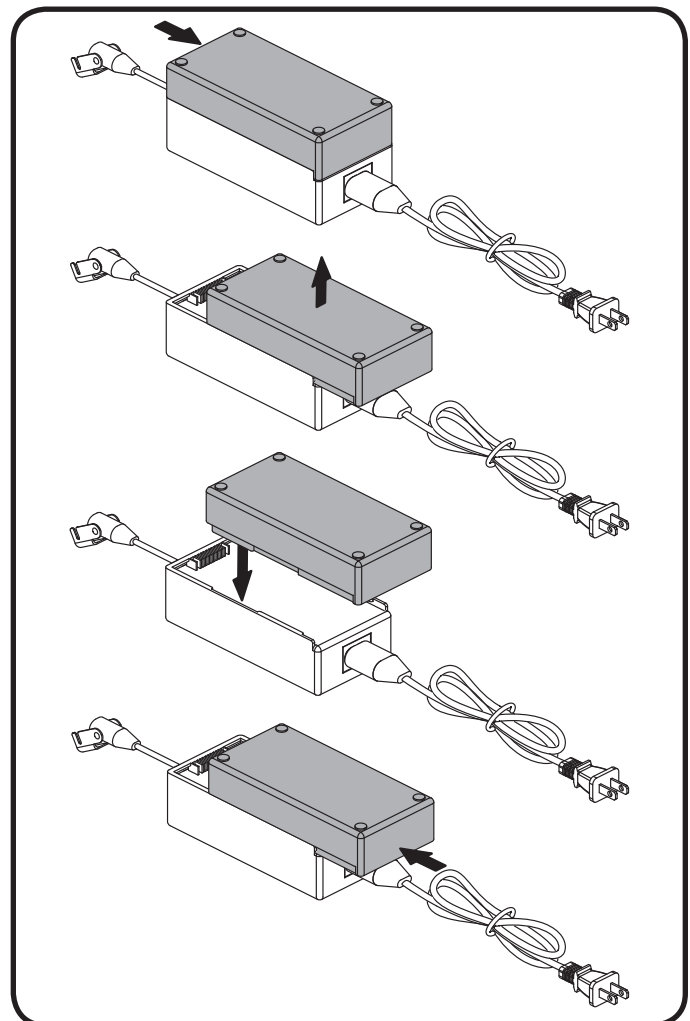

Figure 4.5 Lithium-Ion Battery Replacement
5. Place the new lithium-ion battery on top of the external transformer with the securement grooves toward the external transformer (**fig. 4.5**).